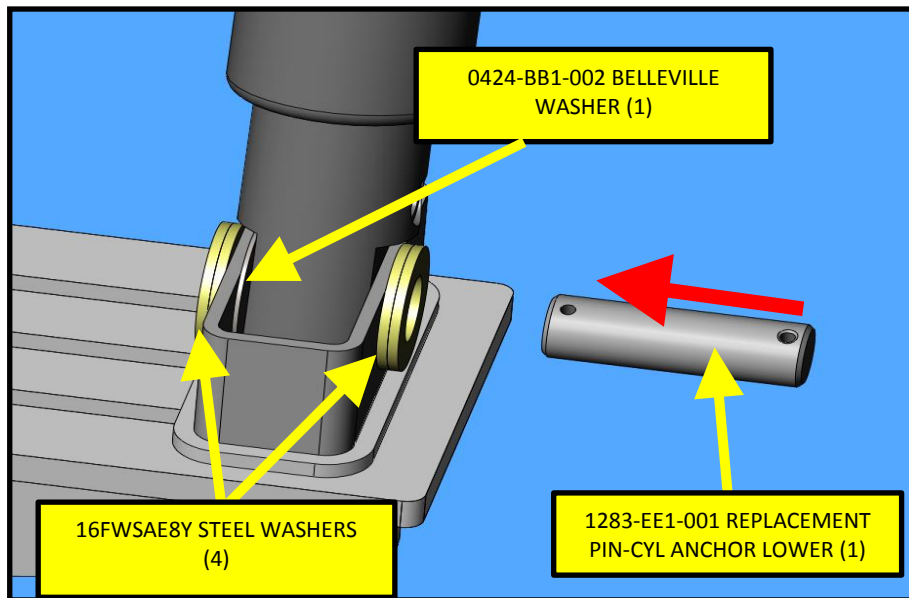
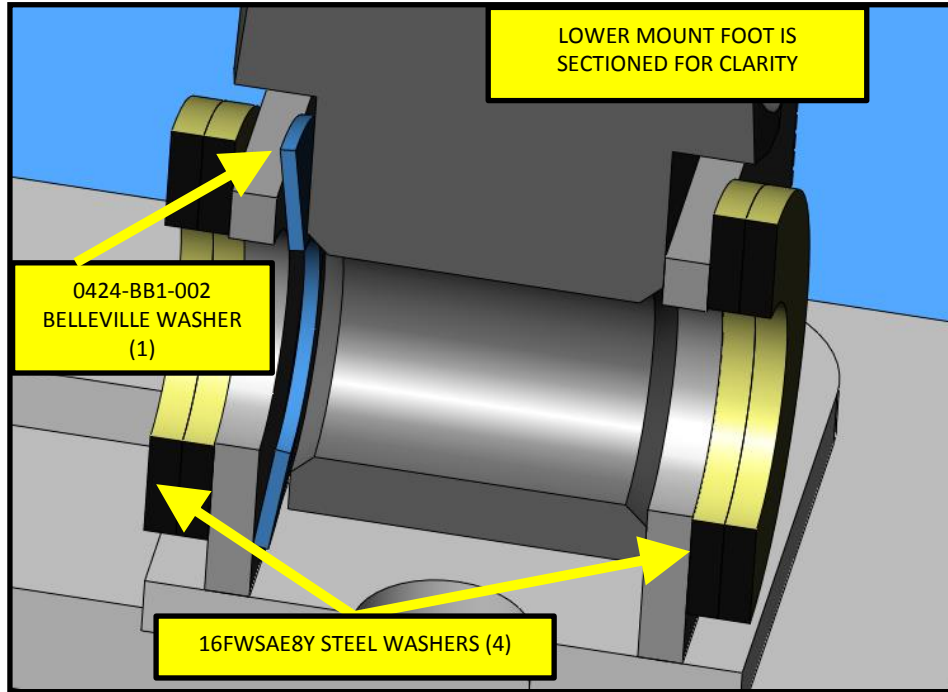

FIG. 15-2
FIG. 16-1
26. Locate (4) 16FWSAE8Y washers and (1) 0424-BB1-002 Belleville washer then slide the new 1283-EE1-001 lower pin into location. Insure that the Belleville washer is oriented correctly. Refer to FIG. 15-2 and FIG. 16-1.